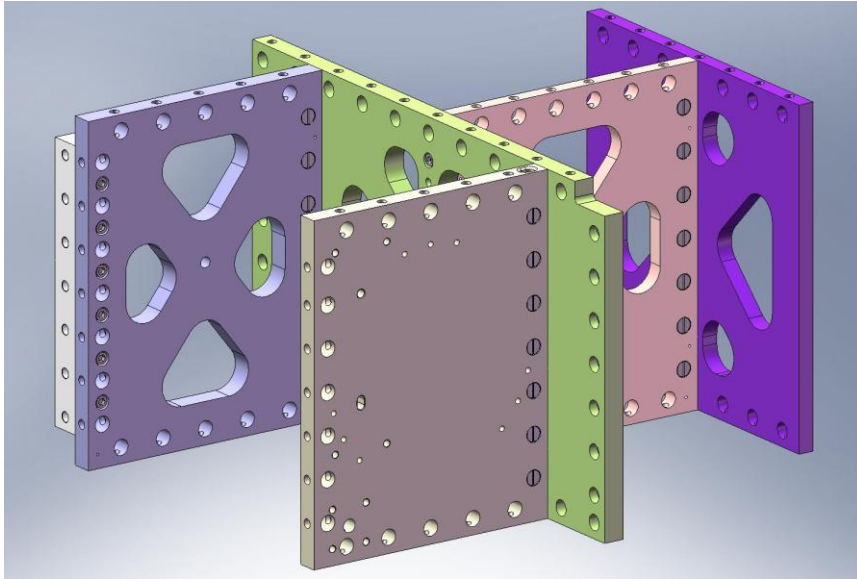

Figure 2.39. 90 Deg Outer Wall Bracket mounted to Pitchfork Assembly. The screws for the Bracket are not torqued until later in the assembly of Stage 1.
- Screw **Outer Wall, Bracket 90** (D071061) onto side of **GS-13 Out 2 Rib** (D071056), in orientation shown in Figure 2.39. Snug screws, but do not torque, yet.